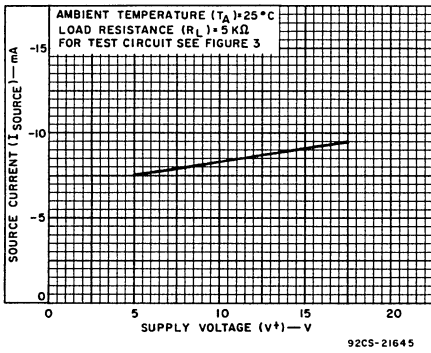

Fig.11 — Source current vs. supply voltage.
- High voltage gain (see Fig. 11). . . up to 53 dB (typ.) per COS/MOS stage